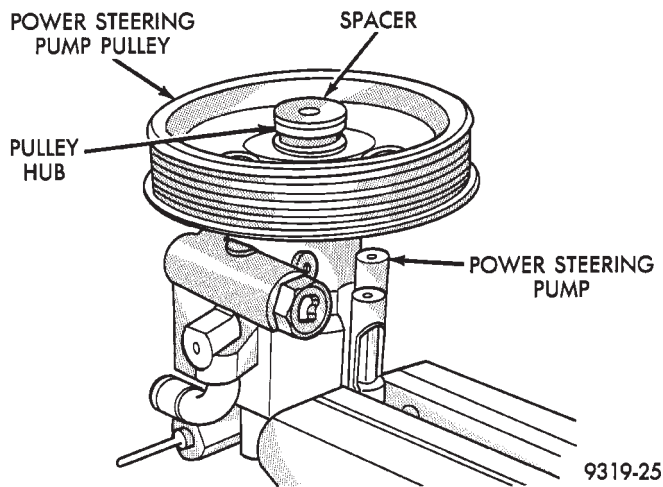

Fig. 38 Pulley And Spacer Installed On Pump
(1) Place the power steering pump pulley on the end of the power steering pump shaft. Make sure the pulley is installed squarely on the end of the shaft (Fig. 38).
(2) Install the spacer provided with the replacement power steering pump or power steering pulley into the hub of the power steering pump pulley (Fig. 38).